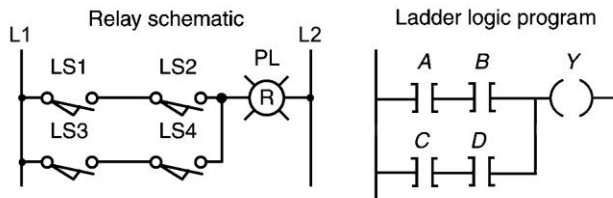

Figure 4-26 Program for assignment 6.
6) Program the relay schematic of Figure 4-26 using your PLC, and simulate its operation.